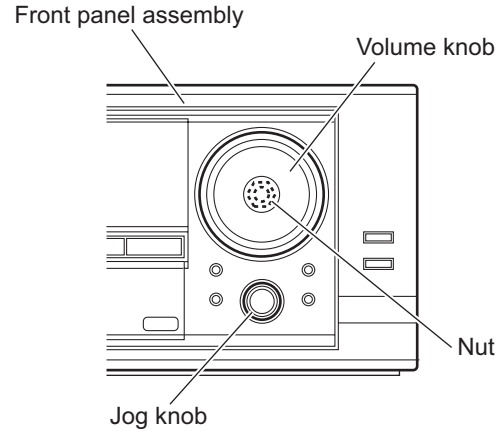

Fig.19
### 3.18 Removing the front key & system control board, front video board (See Figs.19 to 22)
- (1) From the front side of the front panel assembly, pull out the volume and jog knobs, and remove the nut attaching the front key & system control board. (See Fig.19)